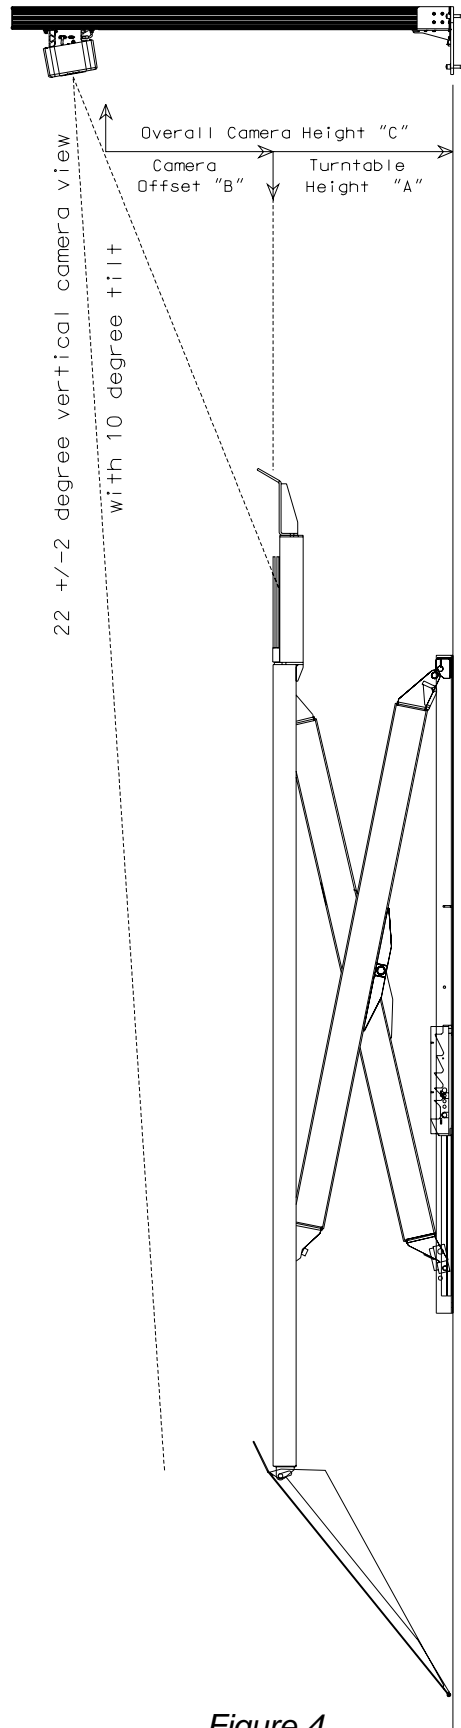

Figure 4
The Pre-Installation checklist was created primarily with sales personnel in mind, however it can be used as tool to verify bay conformance to requirements. Below are some key issues to consider for a successful installation. See Figures 4 and 5 on pages 9 and 10 for a typical bay layout.
3. Determine the **Turntable Height** (the normal operating height of the rack). On a multilevel lift (i.e. parallelogram) put an average size car on the lift and raise it until the alignment technician feels comfortable performing wheel turns, rolling the vehicle back and forth, and making toe/camber adjustments from underneath. On other lifts/racks (such as a hoist rack) it is necessary to use the leveling leg height. Typical turntable height is from 30" to 36". See *Figure 4*, page 9.